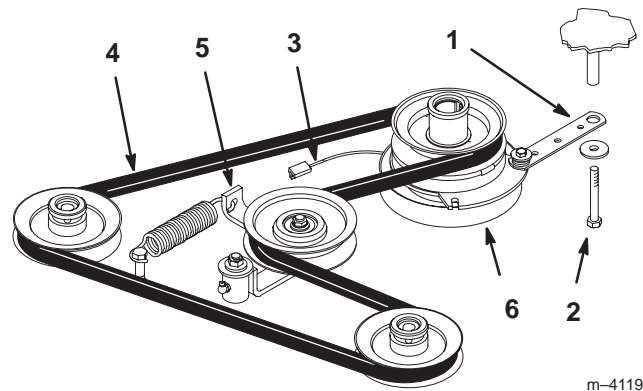

Figure 47
2. Remove bolt from clutch strap and unplug clutch electrical wire (Fig. 47).
3. Pull spring loaded idler to side. Remove traction belt from the engine and hydro pump pulleys (Fig. 47).
4. Install new belt around engine and hydro pump pulleys (Fig. 47).
5. Pull spring loaded idler to side and align belt. Release pressure on spring loaded idler (Fig. 47).